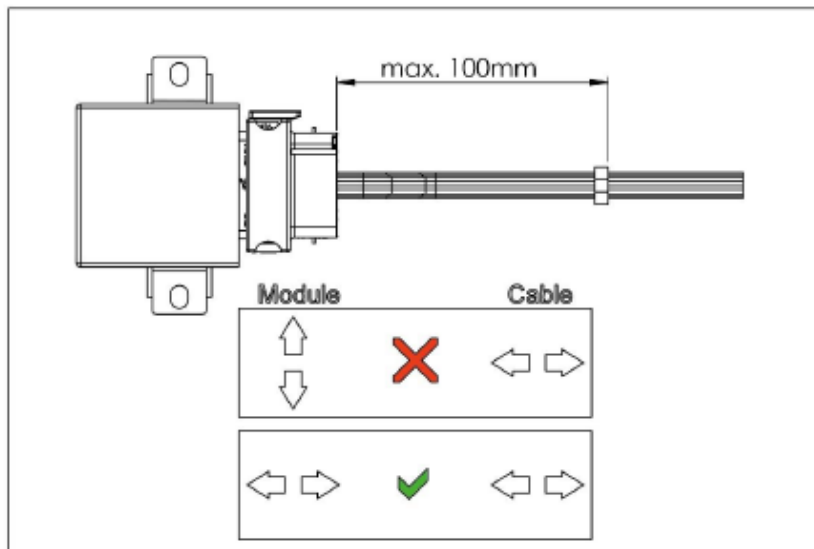
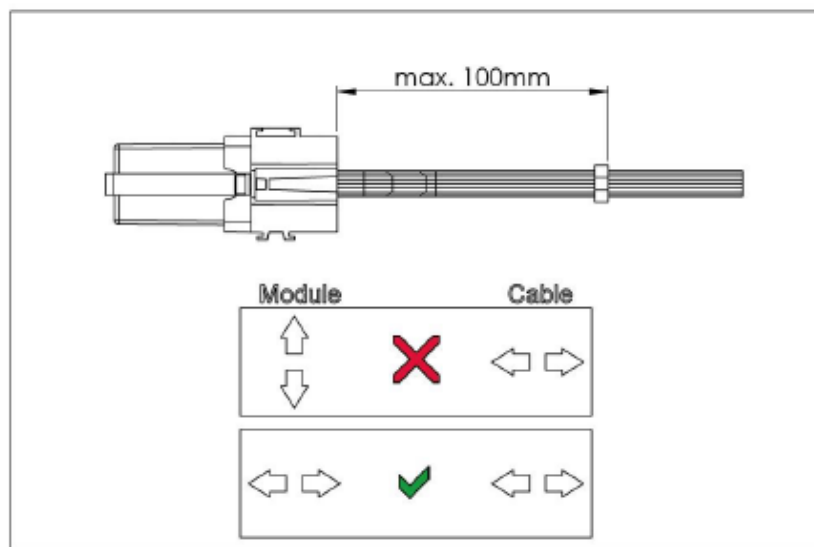

Figure 1: Strain relief of the cable harness (example). 100 mm (max.) are mandatory, control unit may vary.
Figure 2: Strain relief of the cable harness (example). 100 mm (max.) are mandatory, control unit may vary.
- The cable routing must be selected in such a way that the cable harness only moves identically to the direction of movement of the controller/plug. (Attachment controller/cable/strain relief on the same underground). A strain relief is necessary (see Figure 1 and Figure 2).